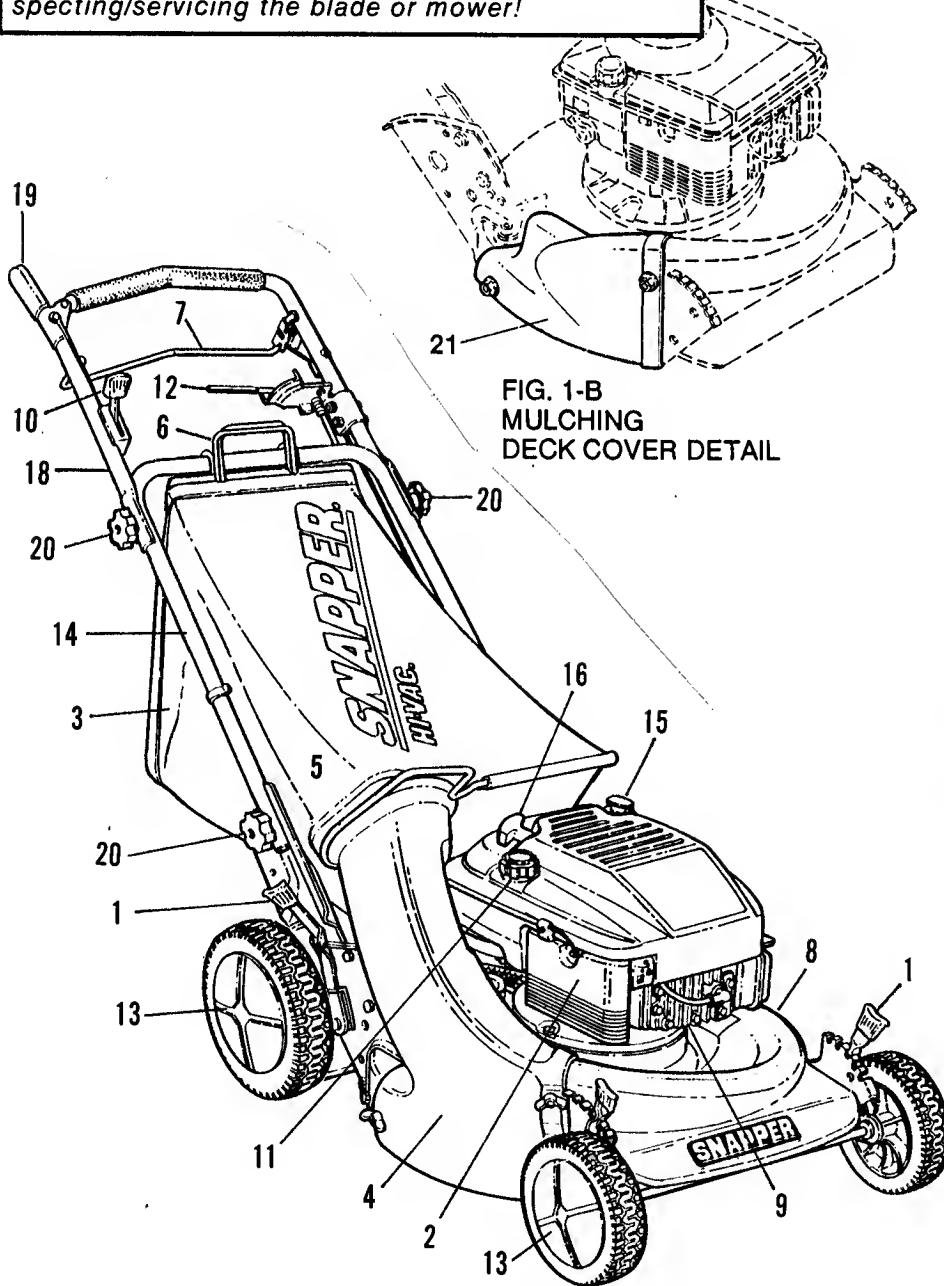

FIG. 1-ROPE START
The engine (and blade) is stopped by releasing the BLADE CONTROL (7). On self-propelled models, releasing the WHEEL DRIVE control (19) stops the forward movement of the mower. Refer to FIG. 1 for locations of controls.